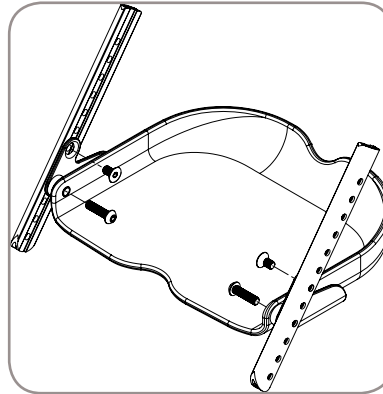

Figure 16
3. Remove flat head and button head bolts from left and right sides, reference Figure 16. 5mm Hex wrench required.